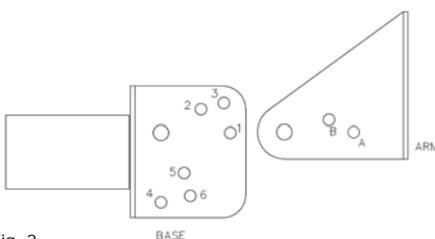

Fig. 2
- 6: Using the hole locations shown in Figure 2, align the arm and the base to the desired angle by aligning either holes A/B on the arm with holes 1-6 on the base. (Note: letters and numbers are shown only in the diagram).